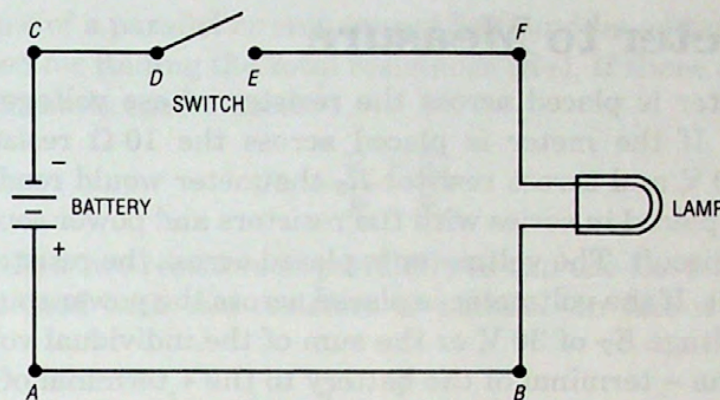

**Figure 2-8.** A simple circuit with a switch.
The *complete* circuit is necessary for the controlled flow or movement of electrons along a conductor (see Figure 2-8). A complete circuit is made up of a source of electricity, a conductor, and a consuming device. This is the simplest of circuits. The flow of electrons through the consuming device produces heat, light, or work.
1. Connect one side of the power source to one side of the consuming device: *A* to *B*. (See Figure 2-8.)
2. Connect the other side of the power source to one side of the control device, usually a switch: *C* to *D*. (See Figure 2-8.)
3. Connect the other side of the switch to the consuming device it is supposed to control: *E* to *F*. (See Figure 2-8.) When the switch is closed the circuit is complete.